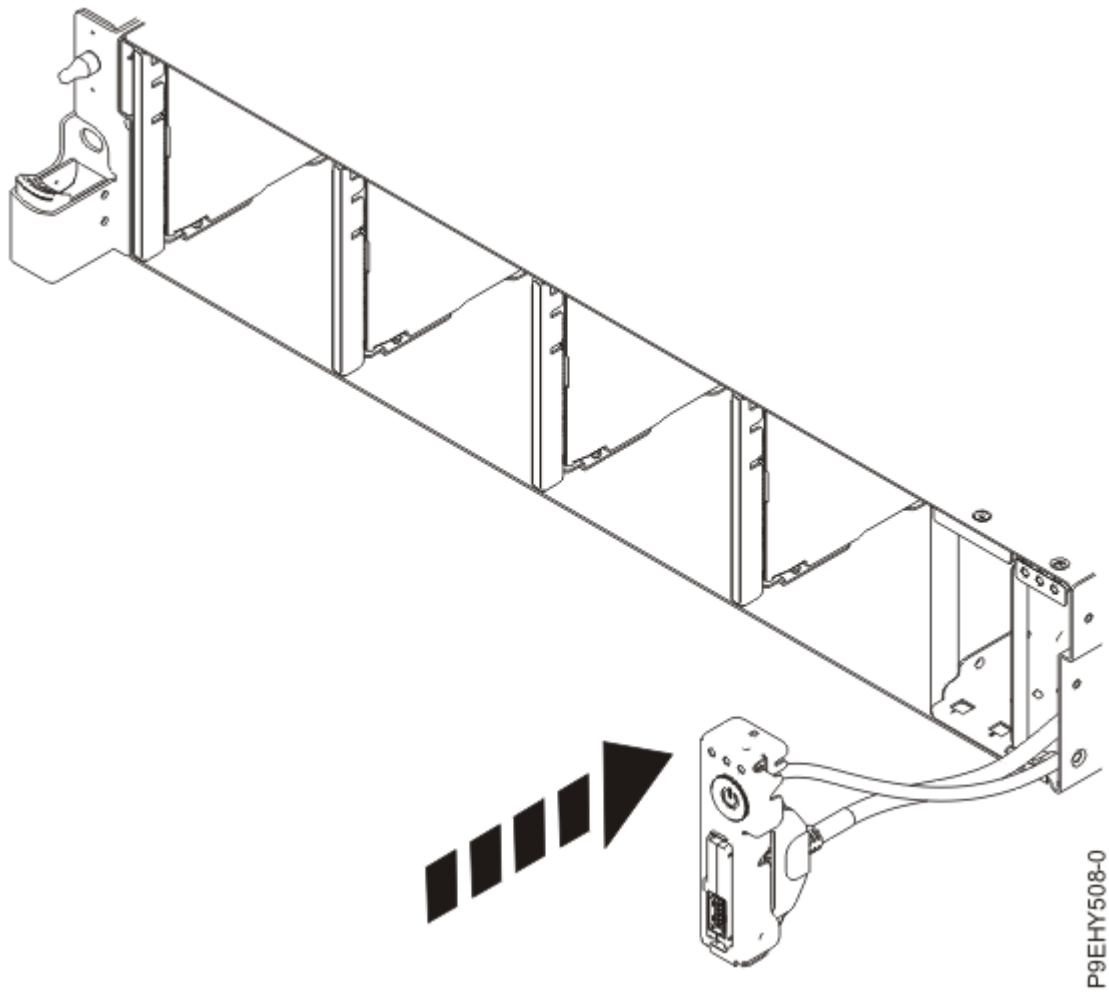

Figure 42. Replacing the front USB cable into the system backplane
4. Insert the USB cable and the power switch and cable into the system as shown in Figure 42 on page 57. Be careful to route the cables through to the system backplane.